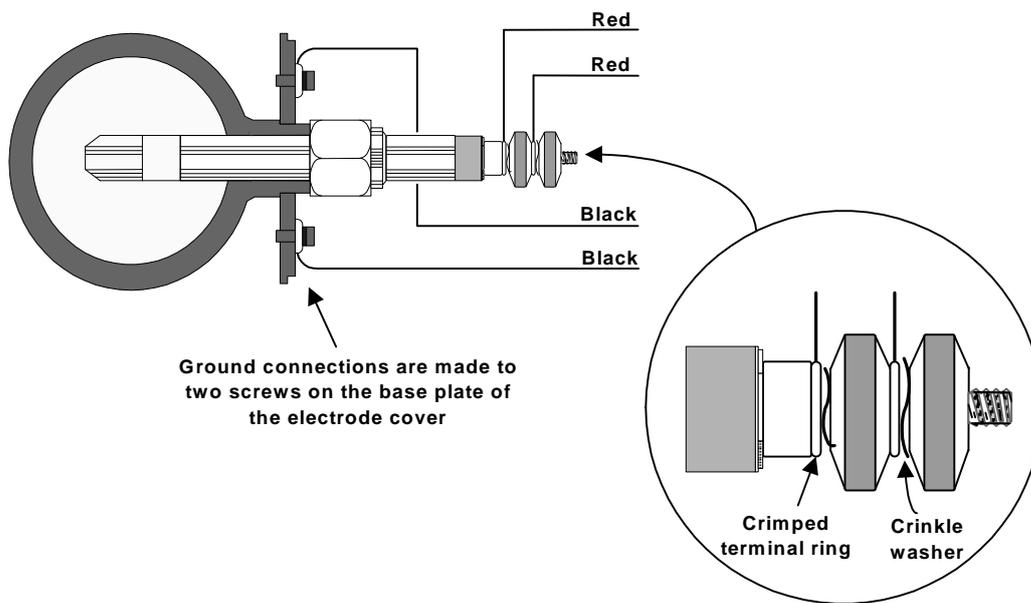

Figure 3.6: Cable connections to an electrode
- 4** On the electrode cover **base plate**, connect the **ground** and **ground-sense** conductors (black), separately, to the two ground screws. (See Figure 3.6)
- 6** On the electrode, secure each conductor (red) under a crinkle washer and a knurled nut. (This can be seen in Figure 3.6.) Ensure that there is a **stress-free** run of cable inside the electrode cover and ensure that the cable gland is **oriented correctly**. (If necessary, cut back to the cable cover, including the screening foil and screen wire, to achieve thus)